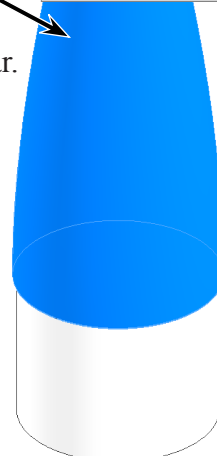

Fig. 83
Step 3. Click the part, click **Appearance Callout**  on the context toolbar and click **NOSE CO.** , Fig. 83.